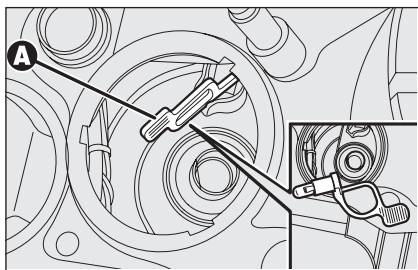

fig. 24
- ☐ press tab **A-fig. 24**, remove the bulb and replace it;